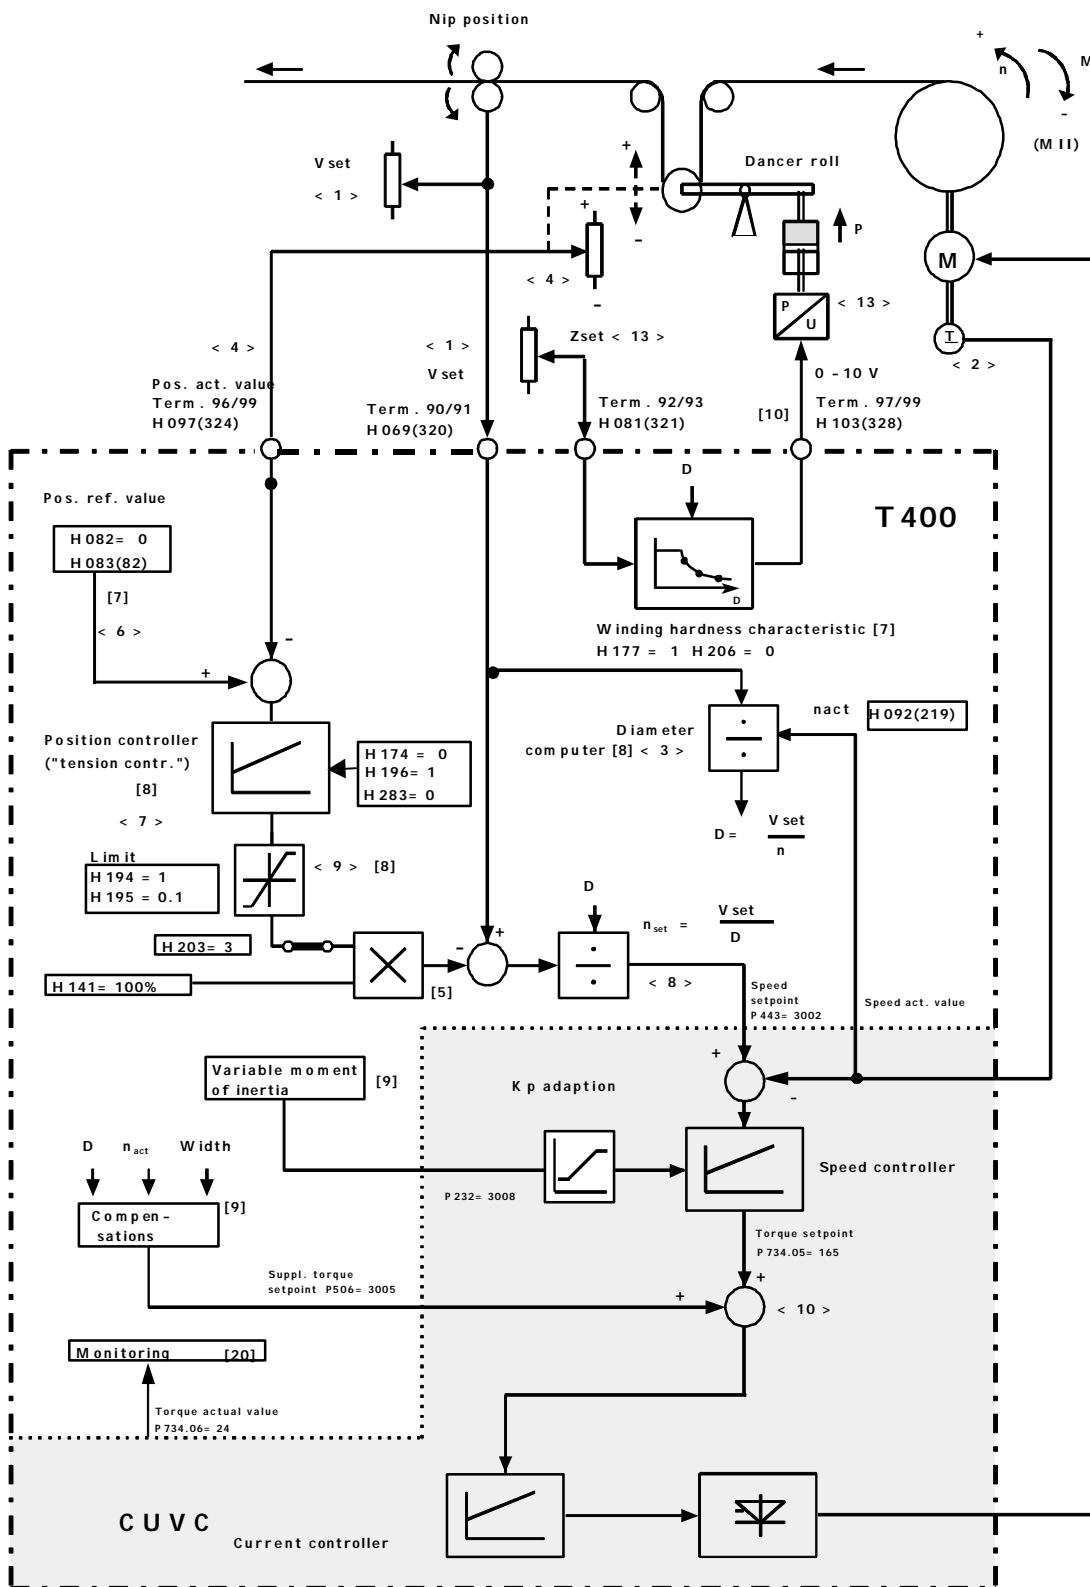

Fig. 4-10 Unwinder with dancer roll, speed correction control
- Note** An example is shown in Fig. 4-10 as to how an unwinder with dancer roll can be configured.
For a winder with dancer roll, there is normally no **external tension setpoint**. For a dancer roll with selectable support force, as shown in Fig. 4-10 a tension setpoint can be entered at the T400 technology module, in order to be able to use its winding hardness control (open-loop) (H206=0). The tension setpoint can be still controlled using a ramp-function generator with H284=0. The output of the winding hardness characteristic can then be output, for example, at terminals 97/99, and they can then serve as setpoint for the pneumatic adjustable dancer roll support.